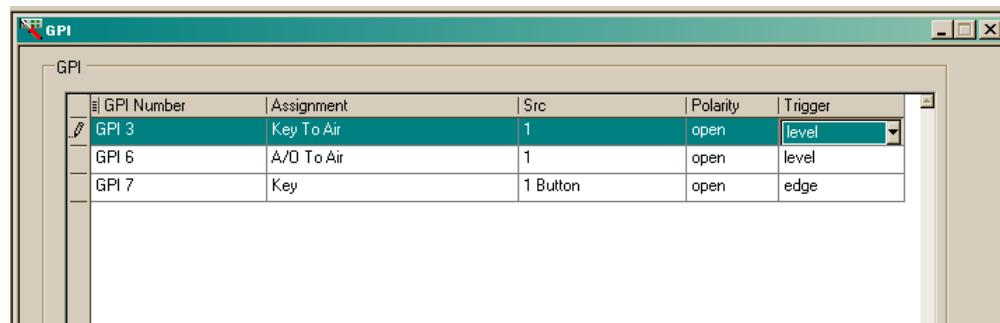

Figure 6-1 GPI Settings for EAS Logo Insertion
- 2 Connect this GPI output to an IconMaster GPI input, and configure IconMaster to use this GPI input as Key to Air (as in **Figure 6-1**) so that the EAS Box can hold the Audio Over active for the duration of the EAS audio message.